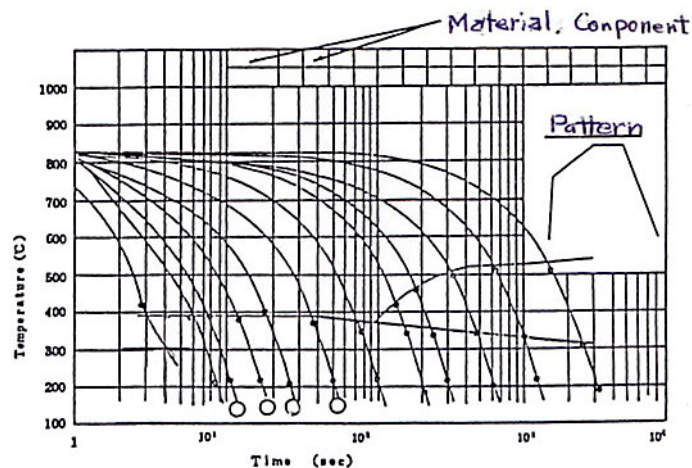

Fig. 4 CCT diagram
- 1) 「CCT」 diagram … Fig. 4
- ① Read out maximum 24 curves of CCT data from 「CCT」 file made under the item 3) in 3.3.1 and output 「Time – Temperature」 curve on display screen.
- ② Make CCT diagram on display by inputting necessary comments and boundary line by using mouse and key.
- ③ After outputting to printer, save whole CCT drawing in 「CCT」 file.